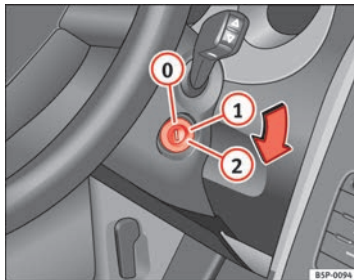

Fig. 140 Ignition key positions
In this position ⇒ Fig. 140 the ignition and the engine are OFF and the steering may get locked.
- Turn the ignition key to position ⇒ Fig. 140 ①. The warning lamp  will light for engine pre-heating.
- When the lamp turns off, turn the ignition key to position ② to start the engine. Do not press the accelerator.
- Turn the ignition key to position ⇒ Fig. 140